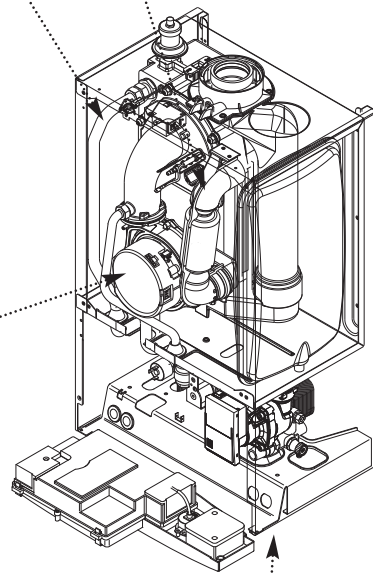

Fig. 52
15. Turn the tap off and draw off from a hot tap. Undo the blanking cap and remove the threaded bush (Fig. 52).